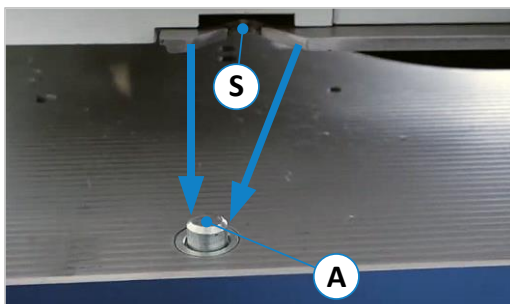

Figure 23: Align dovetail receptacle to locking pin
- Now stand on the back of the machine and pull the fence with the dovetail receptacle (S) as close as possible against the locking pin (A).
- Now set the fence down and move the rest by hand so that the locking bolt (A) engages securely in the receptacle (S) as shown in ⇒ Figure 23.